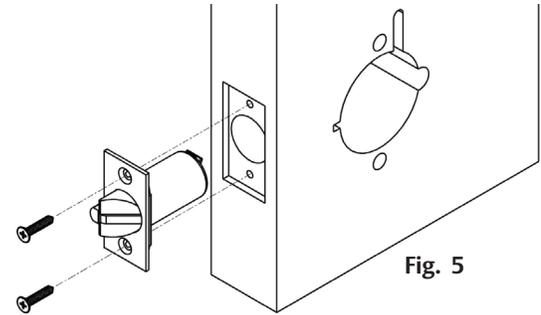

Fig. 5
5. **Install Latch Bolt** with beveled bolt facing the strike using two #8 x 3/4" combination screws (Fig. 5):